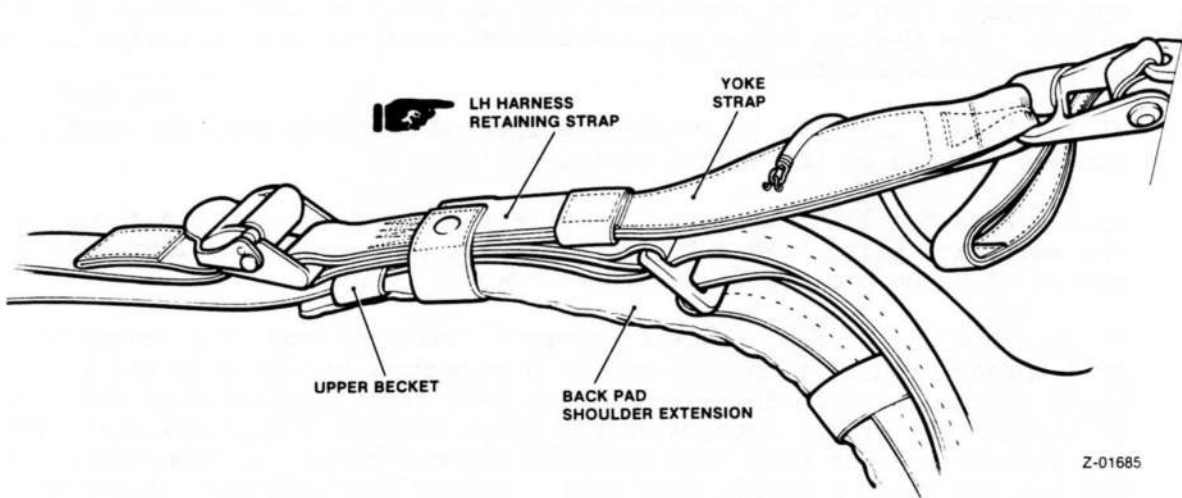

Fig 10 Securing the lift web retaining straps -
41.15 Stow the excess lift webs in a U shape between the harness back pad and the seat back rest. Enclose the lift webs, back pad and yoke strap in the lift web retaining straps (fig 10).